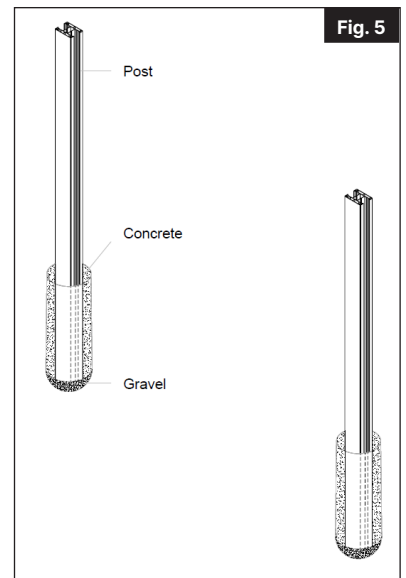

Fig. 5
8. Add wet or dry concrete mix according to the manufacturer's instruction to the top of the hole for the first post. Ensure first post is plumb and level. Let concrete soft set making sure to leave about 2" of space from the bottom of the panel to the ground (Fig. 5).